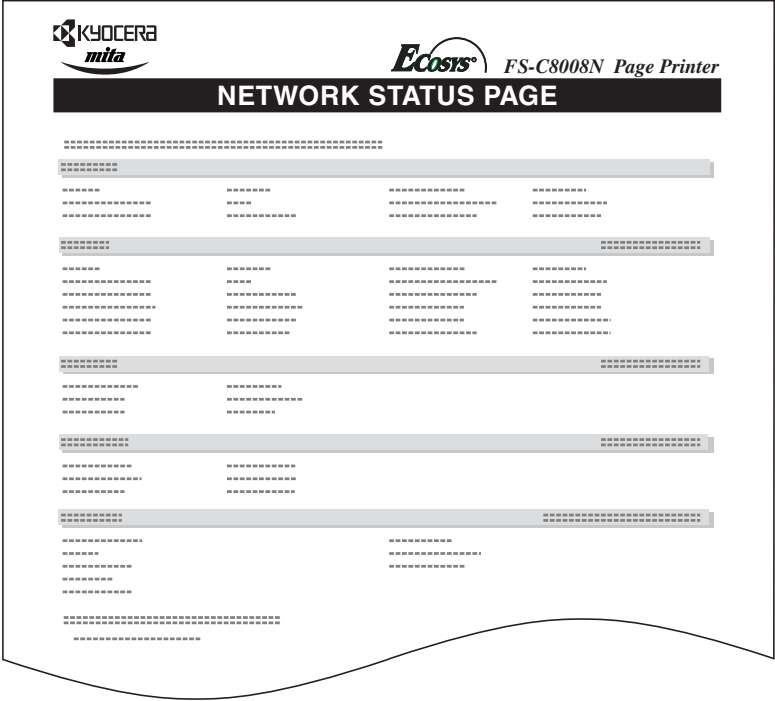

Figure 3-7
A sample network status page is shown on *Figure 3-7 on page 3-41*.
- 9 Press the **MENU** key. The display returns to Ready. The printer prints a network status page as an example shown in *Figure 3-7* below.